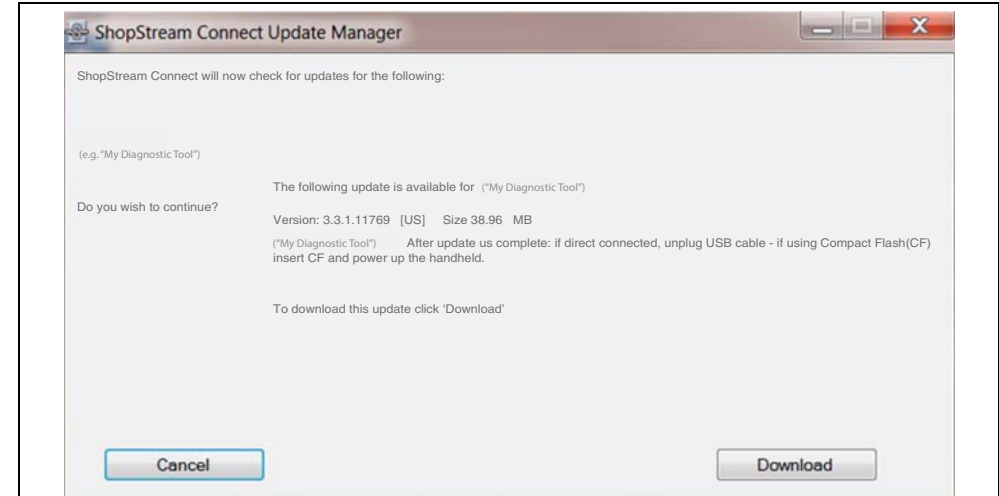

Figure 18-13
2. If service release updates are available, select **Next** to continue, then select **Download** and follow the on-screen instructions to complete the installation (*Figure 18-13*).